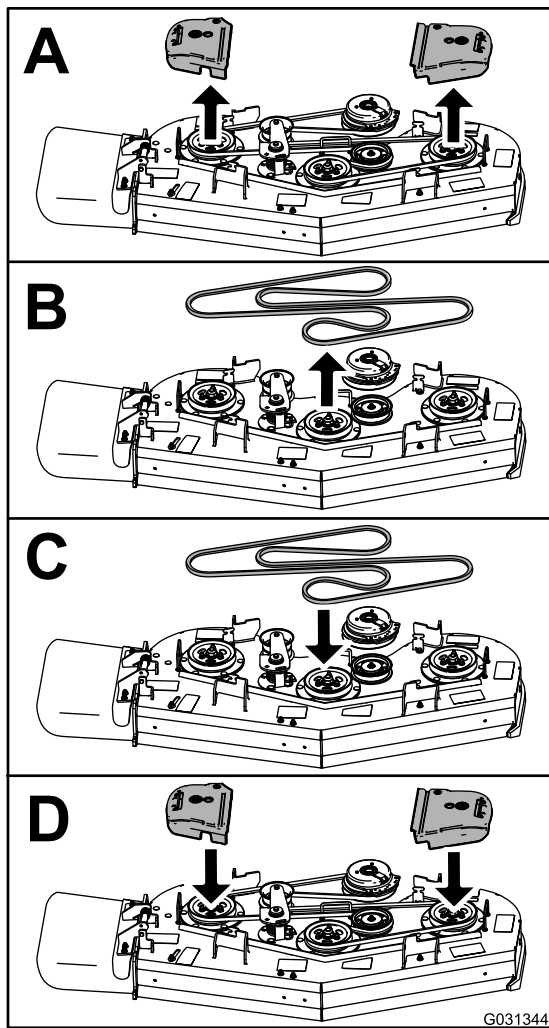

Figure 64
3. Replace the belt as shown in Figure 64.